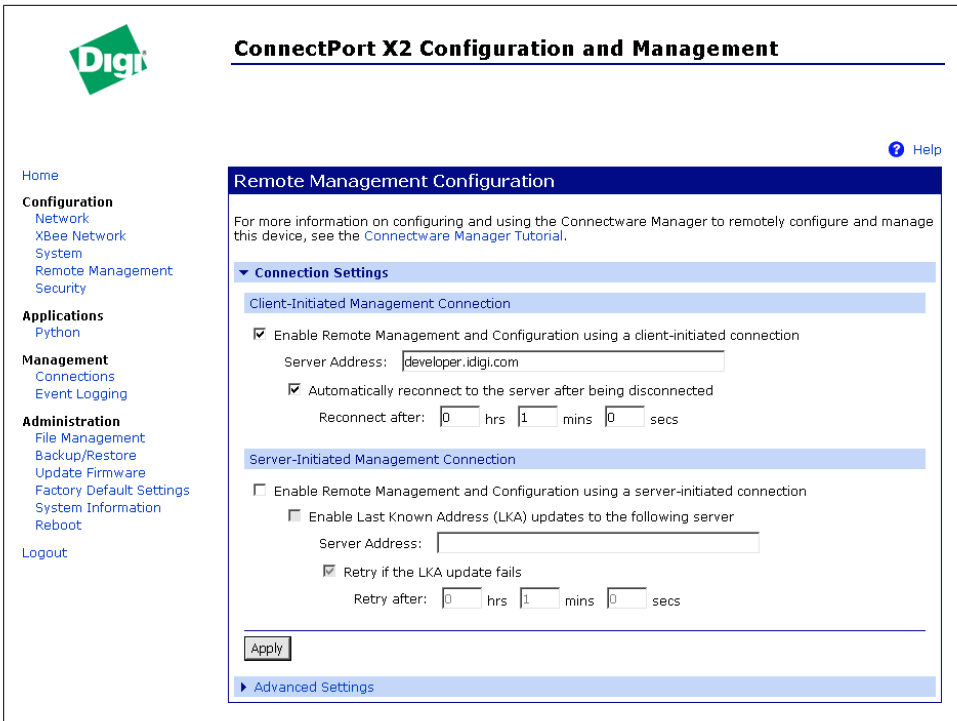

Figure 7-7. The Remote Management Configuration screen on the ConnectPort
1. Click on Remote Management in the web interface to show the configuration screen. Check the box for "Enable Remote Management and Configuration using a client-initiated connection," then enter `developer.idigi.com` for the Server Address as shown in Figure 7-7. This is where you can link to a central server and command your robot army of sensor networks.